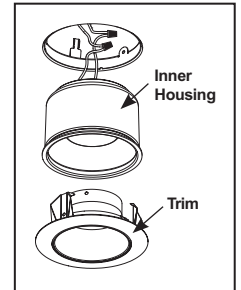

Figure 10
**Step 2.** Pull down inner housing to remove from fixture. Disconnect red and black wires connecting driver to inner housing and set aside. (Fig. 10)
**Step 2.** Pull down inner housing to remove from fixture. (Fig. 10)